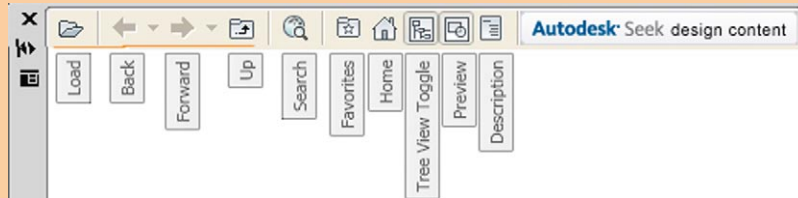

Fig. 9.11 The icons at the top of the **DesignCenter** palette
2. *Clicks* on one of the three icons at the top-right corner of the palette (Fig. 9.11) have the following results\*\*.